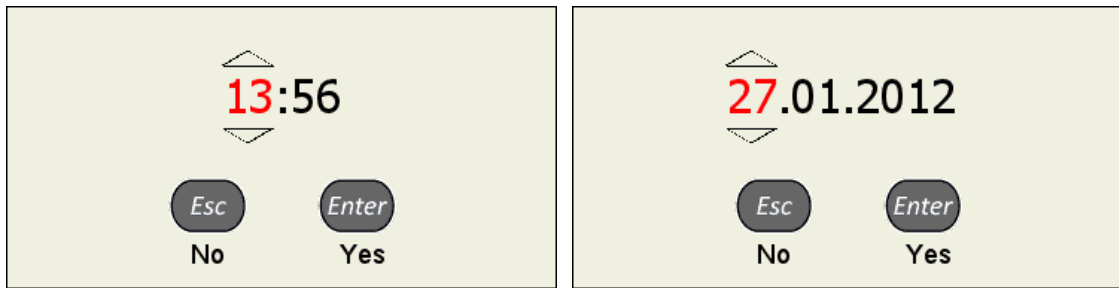

Figure 9
– To edit parameters “Time” or “Date”, select an appropriate parameter and press the key . In open editing window (Figure 9) with keys   select a group for editing and correct values with keys   or  . To confirm changes, press the key , to cancel - .